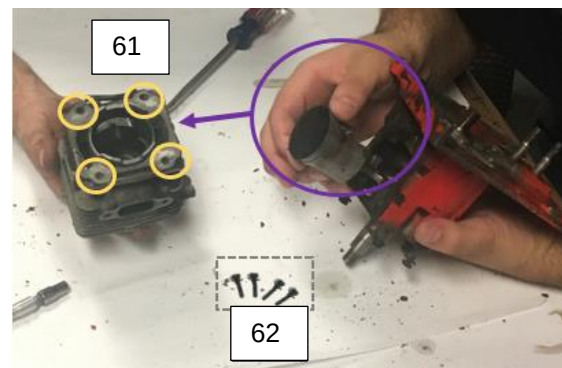

Figure 26: Cylinder Head Removal
Step 24: Use a 5/32in Allen Key to unscrew four Cylinder Head Bolts (62), and manually remove the Cylinder Head (61). (Figure 26)